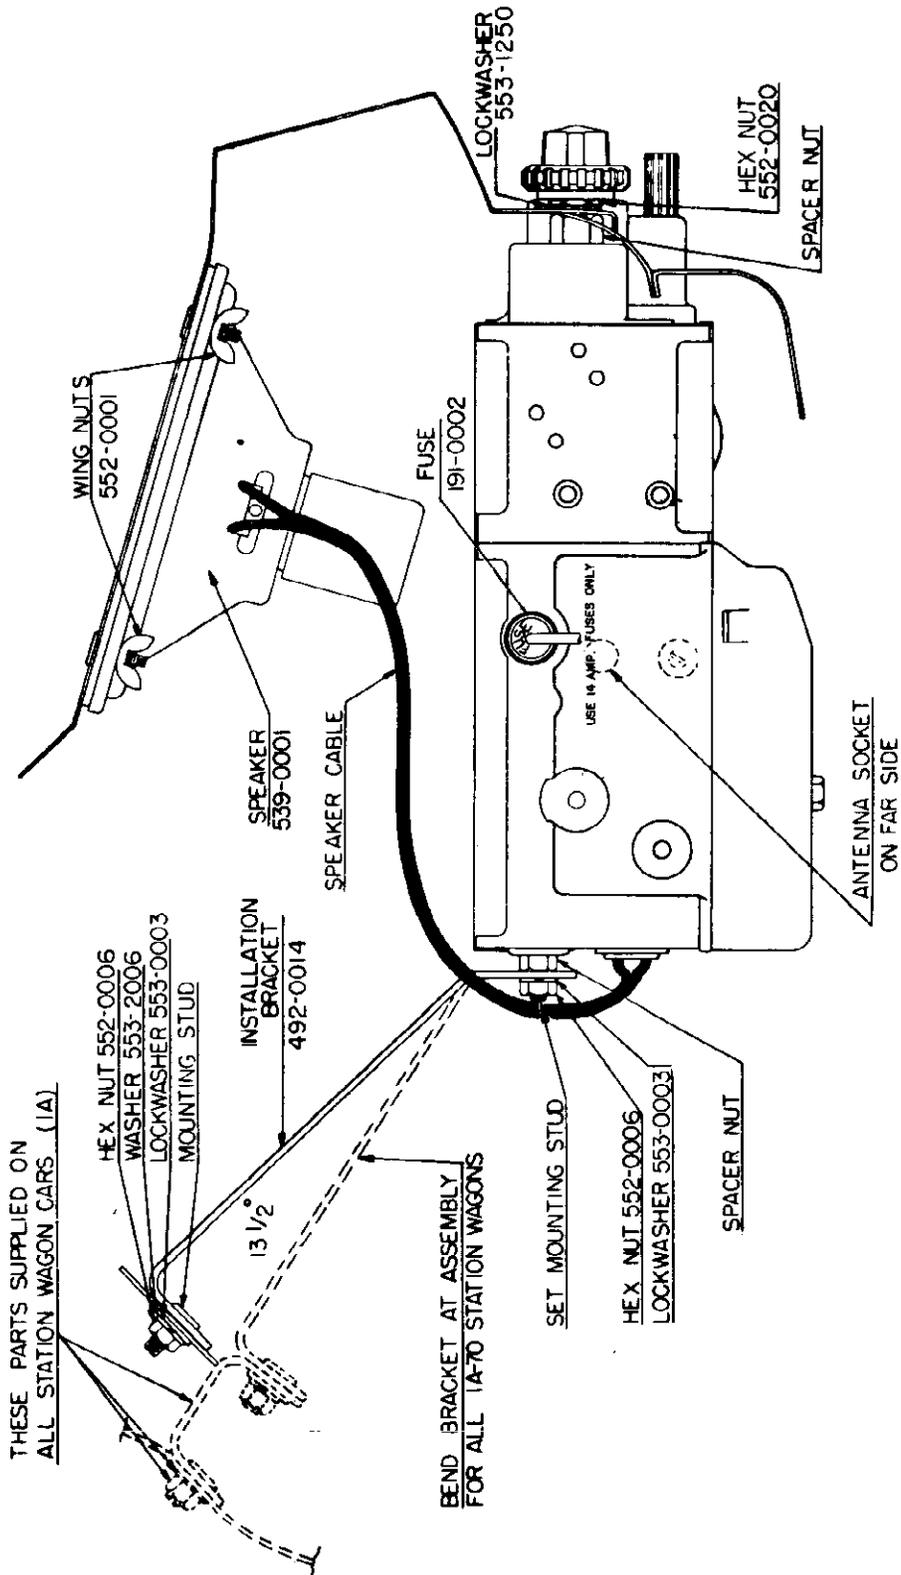

FIG. 6 MODEL OCF751-1 INSTALLATION
Figure 6 illustrates the installed receiver to facilitate removal and reinstallation of the receiver when service is necessary.
shafts. (See Fig. 6)
3. Disconnect the bottom of the set rear mounting bracket by removing the hex nut and lockwasher from the set rear mounting stud. (See Fig. 6)